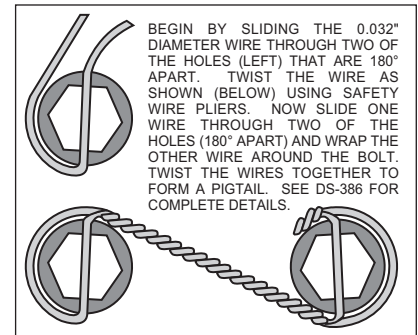

Figure 3. Safety Wire Diagram
- Assemble the rotor (3) to the hat (4) with the bolts (6) and washers (5) provided in the configuration pictured in figure 1. Be sure all bolts thread in smoothly and are snug. Then, torque all bolts in an alternating sequence to 85 **in-lbs**. Safety wire bolts (6) using standard 0.032 inch diameter stainless steel safety wire as shown in Figure 3. Please refer to Wilwood's data sheet DS-386 (available at www.wilwood.com/pdf/ds386.pdf) for complete safety wire installation instructions.
- NOTE:** Please reference the caution statement at the beginning of the assembly instructions. Install one shim (11) over each stud (10) on the radial mount bracket. Slide the caliper (7) in place over the studs and rotors and install the washer (9) and lock nut (8) to hold the caliper in place. The caliper bleed screws should be pointing up. Snug the lock nuts (8) and check that the rotor (3) is centered in the caliper (7). Add or subtract .035" shims (2) as necessary between the mount bracket and the spindle to center the caliper.
- Remove the caliper center bridge pad retainer bolt, nut, and tube from the caliper. Slide the brake pads (12) into place. They should install easily without interference. Check that the outside radius of the brake pad is aligned with the outside diameter radius of the rotor face. Add or subtract shims (11) between the caliper and mount bracket to gain the proper alignment. Reinstall the center bridge pad retainer tube, bolt, and lock nut. The locknut should be snug without play in the bolt or tube. Be cautious not to over tighten.
- Once all clearances have been checked, remove the wheel, caliper, hat, and rotor from the spindle and hub. Secure the caliper mounting bracket (1) to the spindle using red *Loctite*[®] 271. Torque the bolts to 65 ft-lbs. Reinstall the hat and rotor assembly and again use several lug nuts to hold it in place. Lubricate caliper mounting studs and nuts with lightweight oil, reinstall the caliper, torque the caliper nuts (8) to 30-35 ft-lbs.
- Install braided flex line kit part number 220-6746. The 10mm x 1 to -3 (P/N 220-6890) male fitting installs to the stock bulkhead. Then install the straight 1/8-27 to -3 NPT (P/N 220-6956) fitting into the caliper (7). Finally, install the flex line (P/N 220-6411) to the two previously installed fitting. **NOTE: Carefully route lines to prevent contact with moving suspension, brake, or wheel components.** Periodically check hose and components for any wear. Wilwood brake and hose kits are designed for use in many different vehicle applications and it is the installer's responsibility to properly route and ensure adequate clearance and retention for brake hose components.